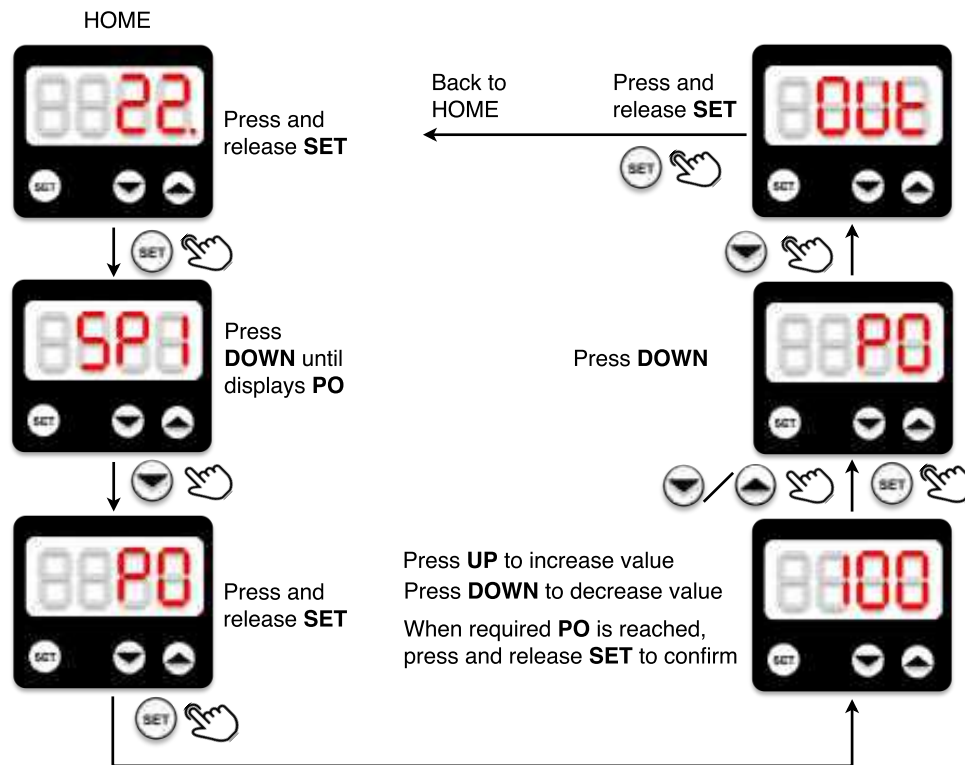

Figure 10 Power output (PO) adjustment
1.5 To adjust power output (PO)
Z1C controller power output (PO) can be adjusted as shown in figure 10.